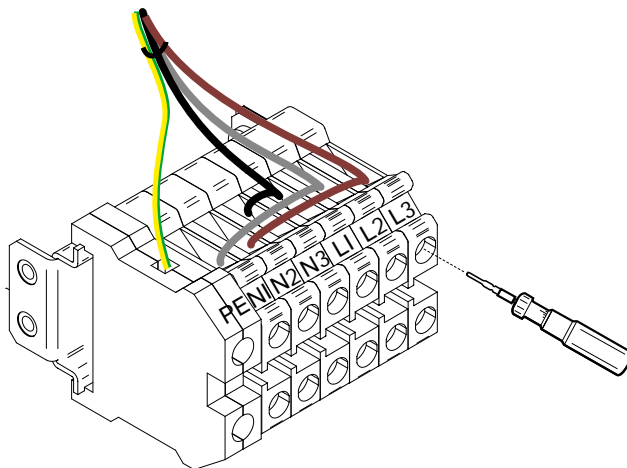

Figure 4-12 AC Cable Connection in North American (3W+PE)
4. If the power system is to be connected to 208-240V North American 3-phase power source, you have to first connect terminal L1 with N3, L2 with N1 and L3 with N2 (3W+PE). Refer to Figure 4-12 for details.